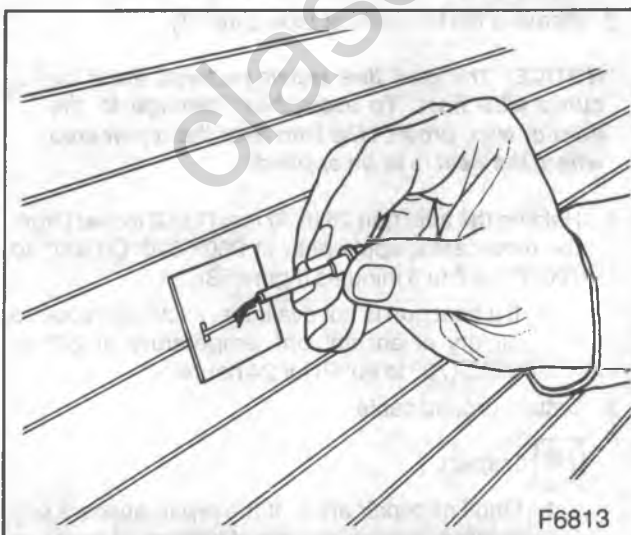

Figure 57 — Applying Grid Material to Broken Grid Line
2. The grid repair material at room temperature to the repair area using a small brush (figure 57).